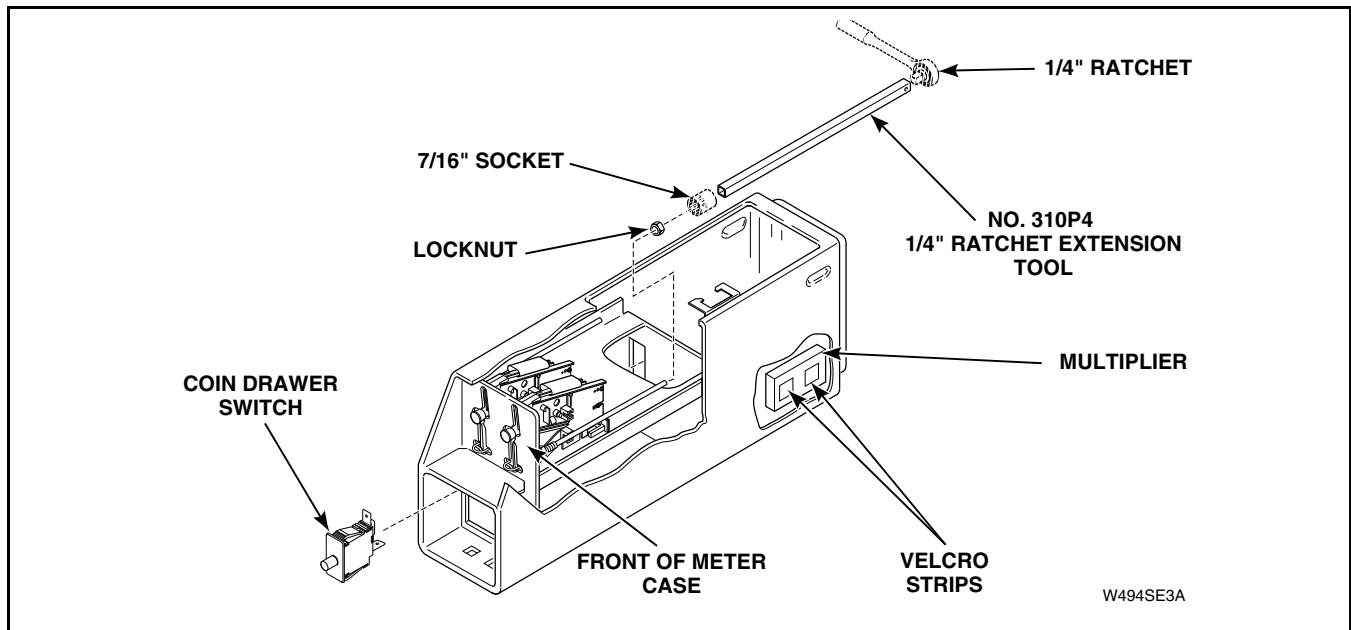

Figure 16
- (4) Remove wire harness from multiplier. Refer to *Figure 16*. Move wire harness out of the way.
- (5) Remove multiplier from inside meter case. Refer to *Figure 16*.
(6) Press in on locking tabs of coin drawer switch and remove switch through front of meter case. Refer to *Figure 16*.
(7) Use a 7/16 inch socket with No. 310P4 1-4 inch Ratchet Extension Tool and remove two locknuts holding coin drop to front of meter case. Refer to *Figure 16*.
- (11) Reinstall multiplier and reconnect wires. Refer to *Figure 16*.
(12) Close and lock service door.